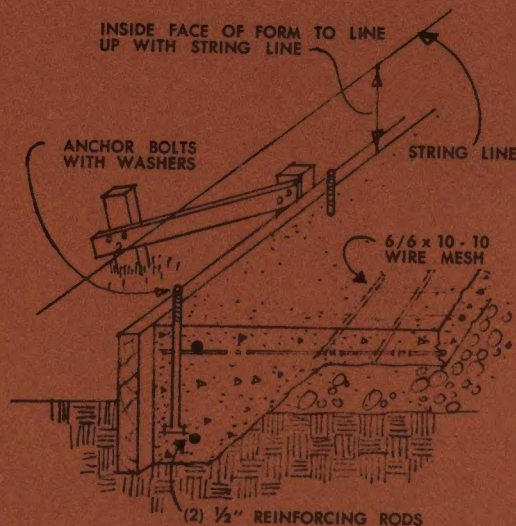
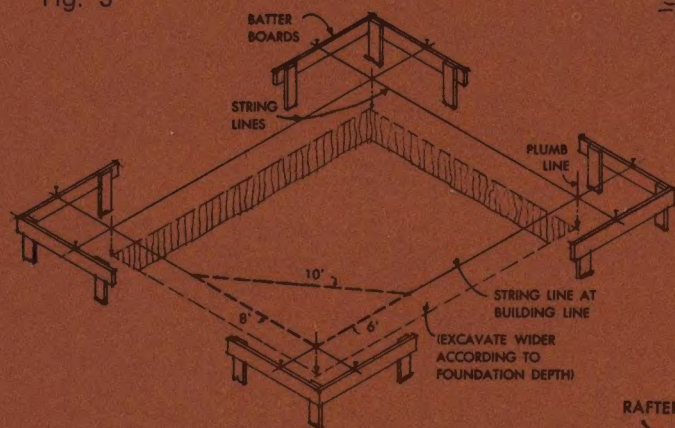

Fig. 2
Fig. 1
- 1 Stake out the area as illustrated. (see Fig. 1) Be sure all corners are square. Remember that dimensions on plan are to outside of concrete and face of stud. Use 2" lumber to build forms for the concrete slab. (see Fig. 2) Inside face of form boards must line up exactly with "string lines" set according to plan dimensions. Brace thoroughly to keep forms from pushing out when concrete is poured.